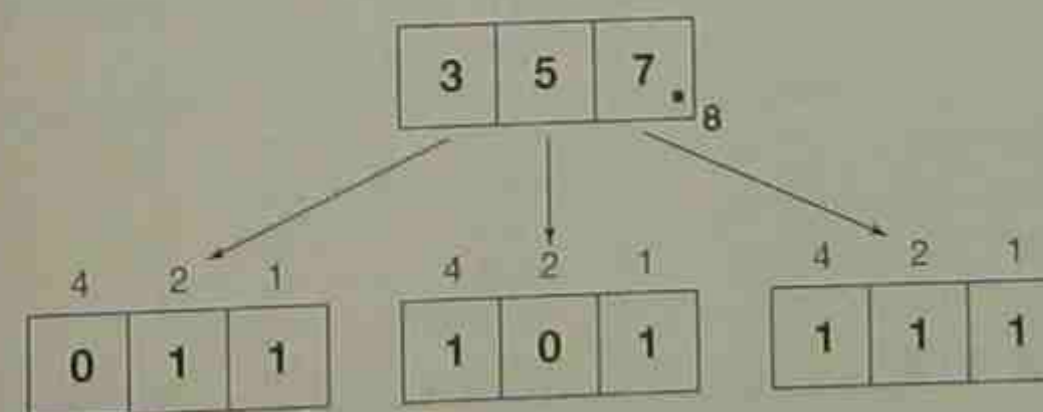

Figure 6-31 Conversion of Octal Number to Binary
Since the largest single number that can be expressed using the octal numbering system is seven (7), each octal digit can be represented by using only three (3) binary bits (base 2). Figure 6-31 illustrates how to convert an octal number to a binary number. The figure shows three sets of binary bits and the place value of each bit. For the *least* significant digit (7), a one (1) must be placed in the 1s place, the 2s place, and the 4s place to equal 7. The middle digit (5), a 1, is placed in the 1s place and the 4s place, while a 0 is placed in the 2s place. This combination equals 5. For the *most* significant digit (3), a 1 is placed in the 1s place and the 2s place, and a 0 is placed in the 4s place. This combination adds up to 3.